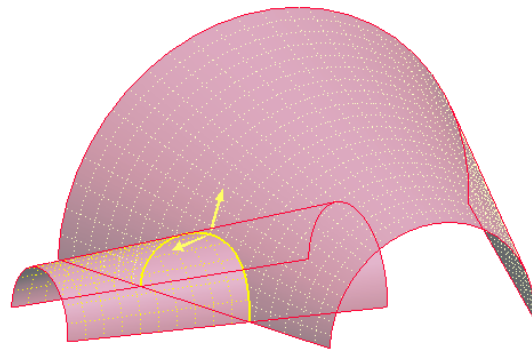

Figure 13-45 Arrows showing the part of the surface to retain
2. Choose the **Change side of first quilt to keep** button and then choose the **Change side of second quilt to keep** button. Notice that the outer side of the surfaces are highlighted with yellow dots as shown in Figure 13-45.